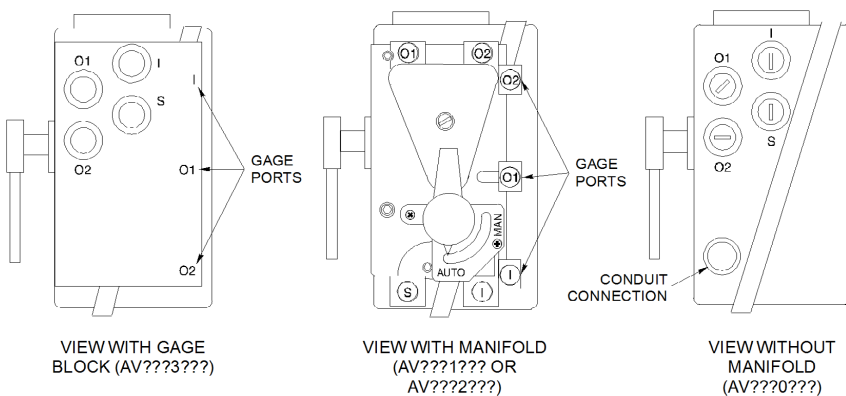

Figure B-5. Port Locations
Type AV positioners are available with (Type AV__1__ and AV__2__) or without (AV__0__) manifolds (see Fig. B-5). The following outlines supply air information and describes the piping connections.
1. Connect the required supply air to connection S (Fig. B-5).
2. Based on the positioner type, perform one of the following steps (Fig. B-5):